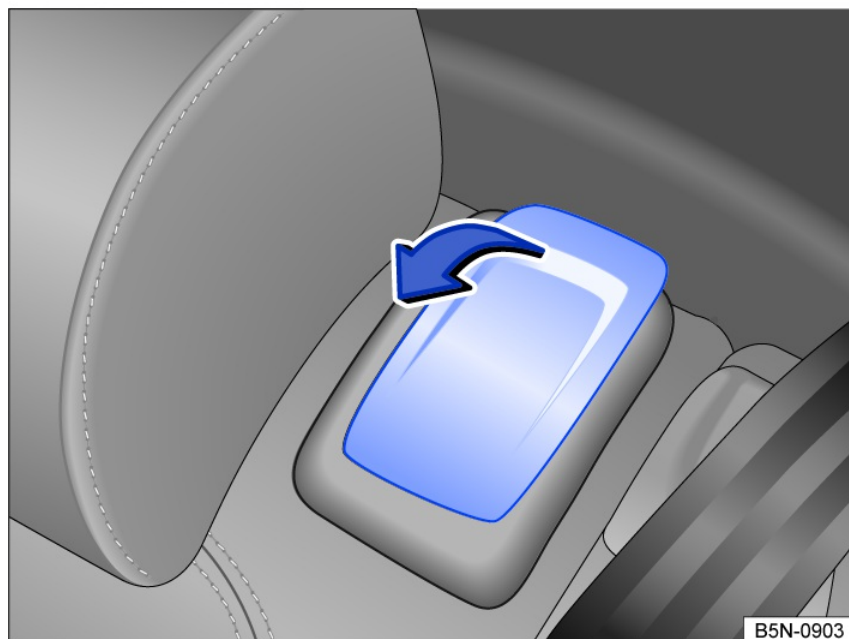

Fig. 95 Second row seats: entry assistance controls.
- Pull the lever fig. 95 forwards in the direction of the arrow, fold the rear seat backrest forwards and push the seat forwards.
- Pull the lever fig. 95 and fold the rear seat backrest back into the upright position. The entire rear seat will fold back ⇒ .